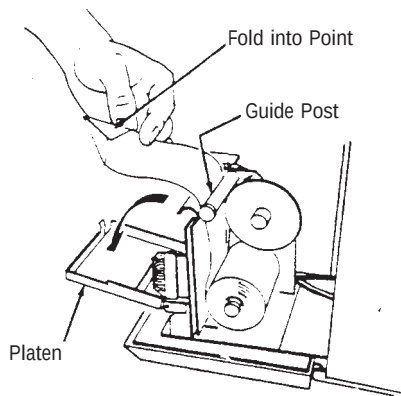

**Figure 5-14**
3. Swing platen down (Figure 5-14).